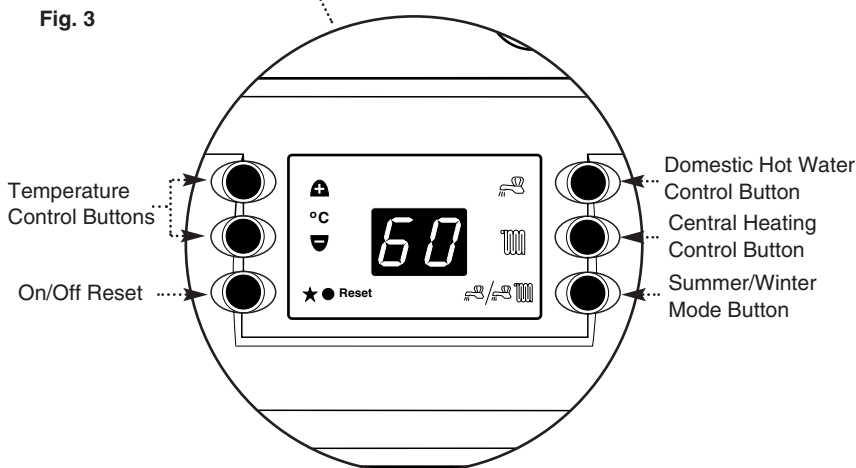

Fig. 4
2. To set the required temperature, press and hold the Central Heating Control Button (  ) whilst adjusting the necessary Temperature Control Button (Fig. 4).
2. To set the required temperature, press and hold the Domestic Hot Water Control Button (  ) whilst adjusting the necessary Temperature Control Button (Fig. 4).
2. If the red flame failure light is on, press the On/Off/Reset button (  ) (Fig. 4) until the red flame failure light goes off.